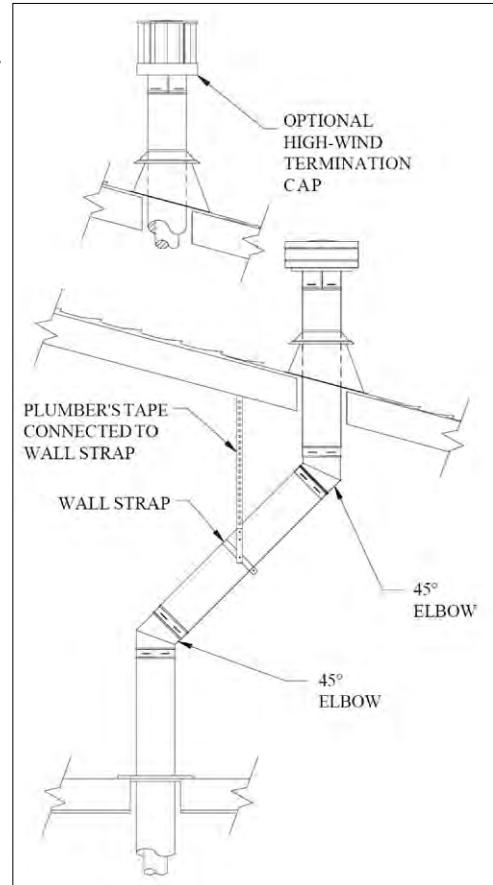
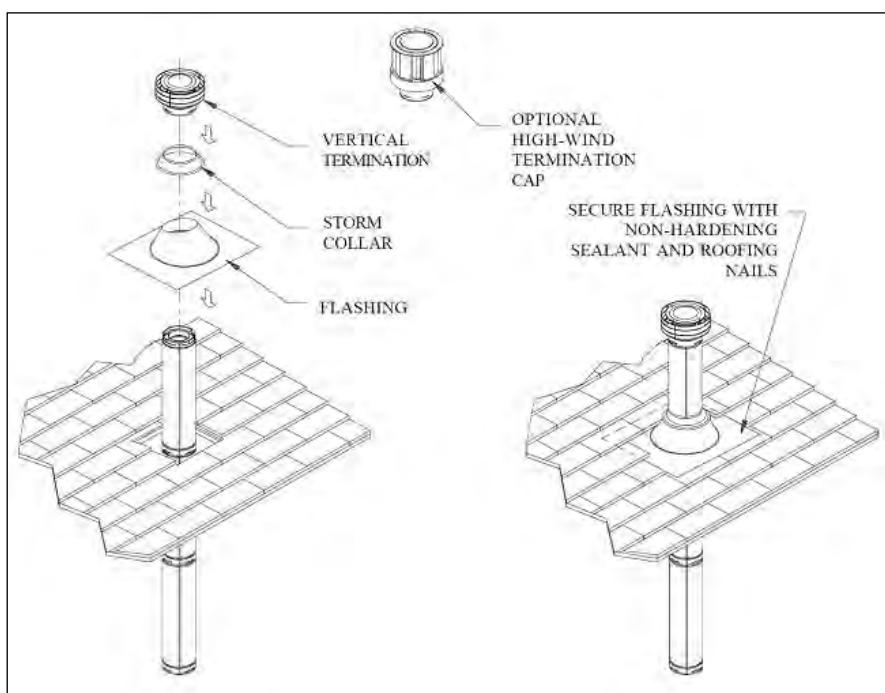

Figure 40: Vertical Installation using.
Figure 41: Installation of Flashing & Vertical Termination.
- (1) If an offset is necessary in the attic to avoid obstructions, it is important to support the vent pipe every 3 feet, to avoid excessive stress on the Elbows, and possible separation. Wall Straps are available for this purpose (see Figure 40).
- (2) Whenever possible, use 45° Elbows, instead of 90° Elbows. The 45° Elbow offers less restriction to the flow of flue gases and intake air.
**Step 6.** Slip the flashing over the Pipe Section(s) protruding through the roof. Use a non-hardening sealant between the Flashing and the roof to prevent water leakage. Secure the base of the Flashing to the roof with roofing nails. Ensure the roofing material overlaps the top edge of the Flashing as shown in Figure 41. Verify that you have at least the minimum clearance to combustibles at the roofline.
**Step 8.** Slip the Storm Collar over the Pipe, and push it down to the top of the Flashing, as shown in Figure 41. Use the non-hardening sealant above and below the joint between the Storm Collar and the Pipe.